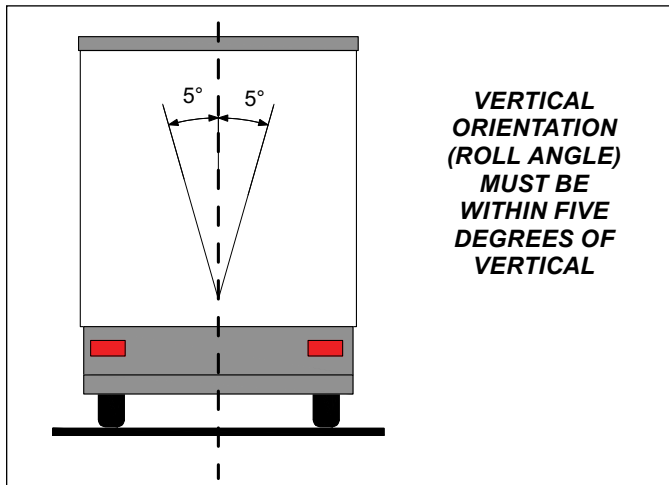

FIGURE 16 - INSTALLATION ON TRAILER (VERTICAL)
1. The TABS-6 Adv module shall be installed with the following considerations (see Figures 16 through 18):